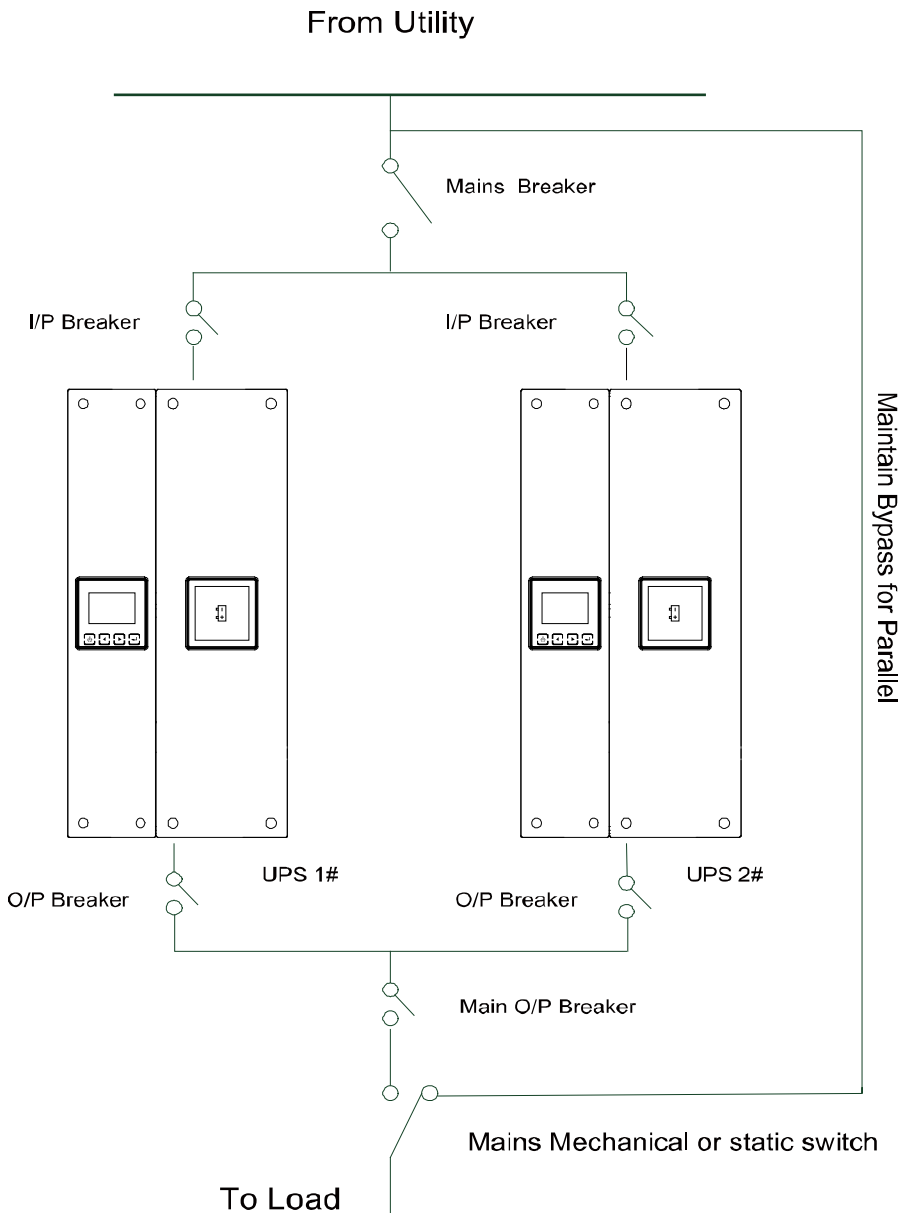

Figure 4-5.b: Parallel System Installation Diagram
- 5) Please connect the input and output wires, fix all the wiring according to the Figure 4-5 and make sure all these breakers are open.
- 5) Connect the cable and wire of the added UPS according to the Figure.4-5.a and Figure.4-5.b